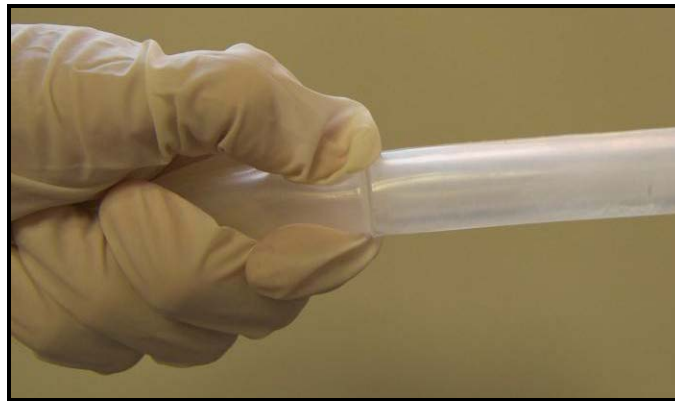

Figure 2.8 Opening the Welded Connection
2.2.11 Once the tubes have been removed and when the display indicates it, the user may press both buttons to reset the grippers to the loading position. Press/pinch the tubing as shown to break the small seal that has formed internally and open the connection between the two welded tubes (see Figure 2.8 below). For thin wall tubing, massaging and/or gently rolling the weld site may help to clear the thin membrane.